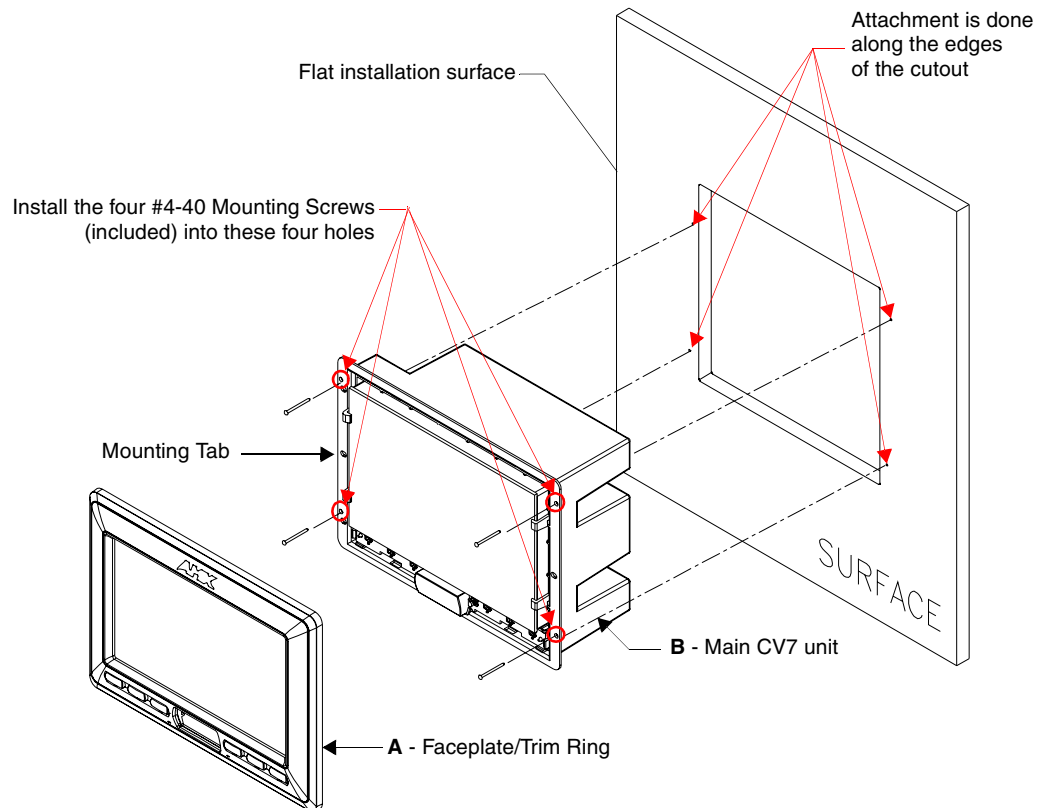

FIG. 41 Wall Mount panel installation configuration for flat surfaces
3. Remove the Faceplate/bezel (**A** in FIG. 41) from the main NXD unit (**B** in FIG. 41) by gripping the faceplate and pulling with gentle outward force.
9. Insert and secure four #4-40 Mounting Screws (included) into their corresponding holes located along the sides of the NXD-CV7 (using a grounded Phillips-head screwdriver) until the unit is secure and flush against the wall (FIG. 41).
10. Place the Faceplate/Trim Ring assembly (A in FIG. 41) back onto the main unit (B in FIG. 41). *Make sure to align the Microphone, Light, and PIR Motion sensor locations to their respective openings on the front bezel/faceplate.*